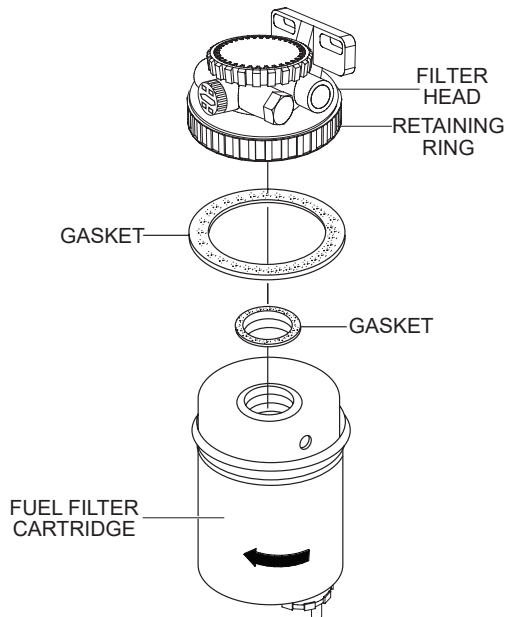

**Figure 179. Draining The Fuel Filter**
1. Loosen the **air bleeder plug** (Figure 179) on the fuel filter head.